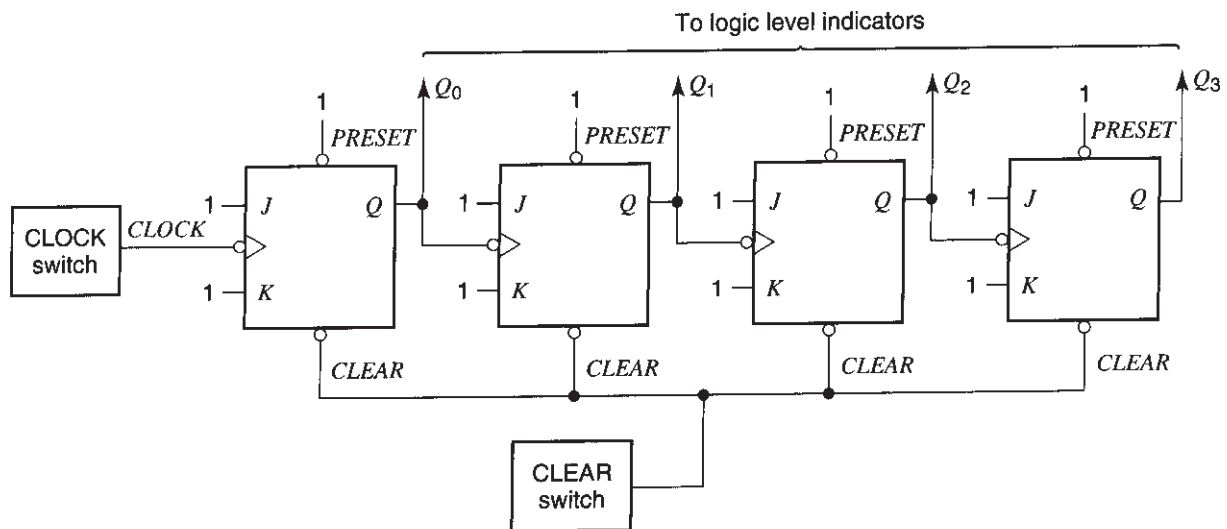
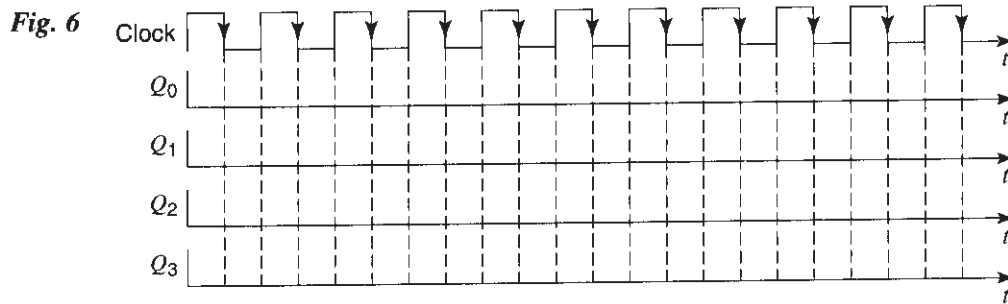

Fig. 5
Fig. 6
Logic level indicators should be available on a digital breadboard. Otherwise, you can make these indicators as shown in Experiment 15, Fig. 5.
5. Consider the ripple counter shown in Fig. 5, *but do not build it yet*. Assume all outputs are cleared. Assume that the clock button is hit repeatedly, resulting in the clock waveform shown at the top of Fig. 6. Complete the waveforms for  $Q_0$ ,  $Q_1$ ,  $Q_2$  and  $Q_3$ . (*Hint: According to what you found above, each flip-flop output will toggle each time the clock input of that flip-flop goes from high to low.*)1
6. Now build the circuit of Fig. 5. Two JK flip-flops can be found in one 74LS112 chip, so you will need two such chips. The pin assignment has been given in Fig. 3. You can mark the pin numbers directly on Fig. 5 to make connecting easier. *Be sure you connect*
the ground and supply pins. The PRESET inputs should be permanently connected to a logic 1, as shown in Fig. 5.
8. Clear the outputs. Consider the combined outputs  $Q_3 Q_2 Q_1 Q_0$  as a binary number, with  $Q_3$  the most significant bit and  $Q_0$  the least significant bit.2 Verify that this number represents the number of times the clock button is hit (or, more precisely, the number of times the clock signal goes from high to low) after the outputs have been cleared. For example, if you hit the clock five times, the binary number  $Q_3 Q_2 Q_1 Q_0$  should be 0101. Explain why this happens, with the help of your diagram in Fig. 6.
11. Lower the frequency of the signal to 1 Hz. *Disconnect the clock switch from the input of the ripple counter of Fig. 5*, and connect instead your function generator output, as shown in Fig. 7. The LED indicator at the output of the function generator should be lighting up one time per second.
14. Use the second channel of the scope and another  $\times 10$  probe to observe the waveform at  $Q_0$ . Using the vertical position control of the scope, place this waveform below the input waveform. Verify that the two waveforms are related as you have drawn in Fig. 6.
15. Move the second probe to  $Q_1$ , and again observe the relation to the input waveform. Verify that it is as you have drawn in Fig. 6. Repeat for the waveforms at  $Q_2$  and  $Q_3$ . At each of these outputs, the circuit is said to accomplish "frequency division." Why? What is the division factor for each output?